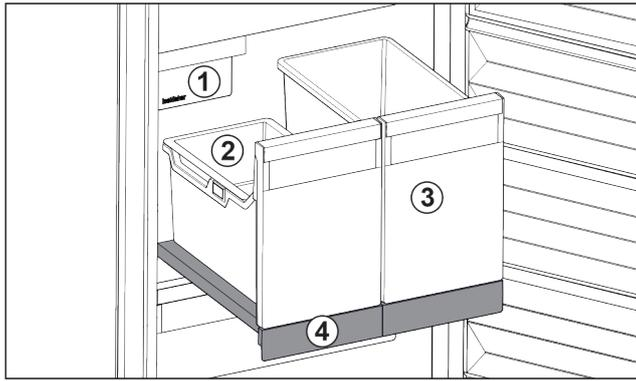

Fig. 40 Pull-out board with IceTower
- (1) IceMaker
- (2) Hang-on tray for ice cubes
- (3) Container for pizza or alcoholic beverages, for example
- (4) Pull-out board
There are two high (IceTower) containers on the pull-out board. Ice cubes from the IceMaker are collected and stored in the Fig. 40 (2) container. The container Fig. 40 (3) is suitable for storing tall foodstuffs or beverages such as pizzas or alcoholic drinks.